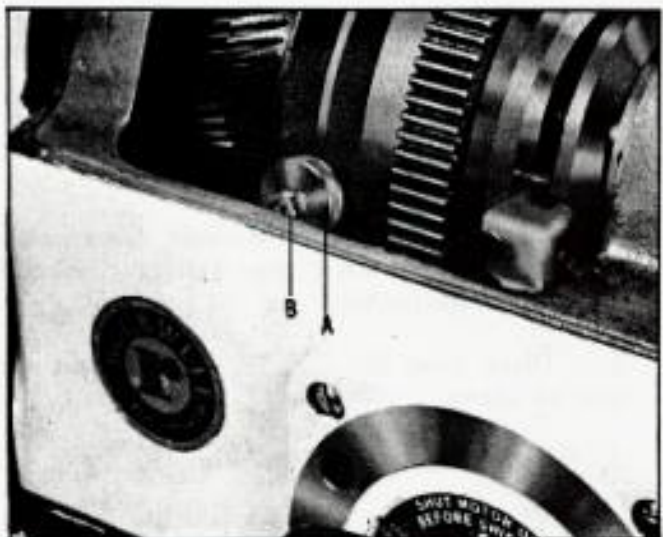

Fig. 21.
The safety lock-out disc (A) Fig. 21, must be adjusted so it is not in contact with the belts and not more than 1/16" away from the belts, when the motor is turned off and the drive selector lever engaged in any of the four positions.
To adjust, remove headstock cover, loosen nut (B) and turn safety lock-out disc (A) Fig. 21 in or out so that it is not in contact with the belts and not more than 1/16" away from the belts. Then lock nut (B) Fig. 21. This adjustment should be made with the drive selector engaged.